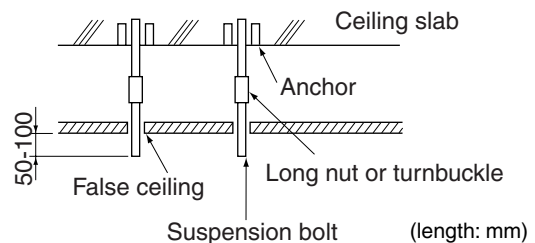

Fig. 3
2. Make holes for suspension bolts, refrigerant and drain piping, and wiring. (Refer to Fig. 3)